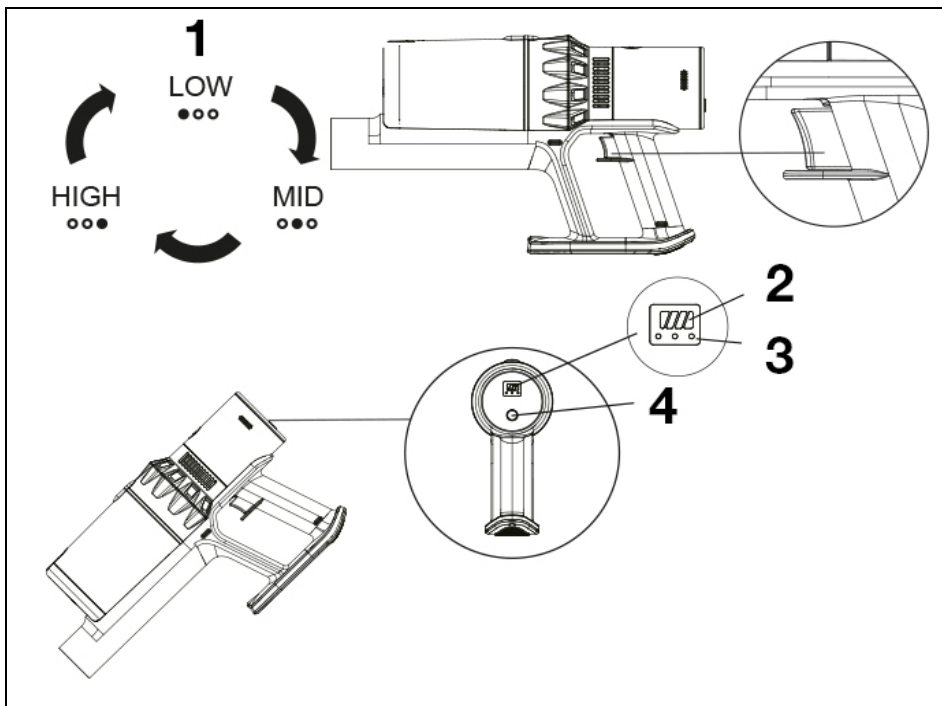

Figure 2
- a) First stage - one LED (1) lit - fig. 2: When the vacuum cleaner is switched on, the suction power is automatically set to low.
- b) Second stage - two LEDs lit: Press the suction power control button (4) - Fig. 2 to set the medium suction power.